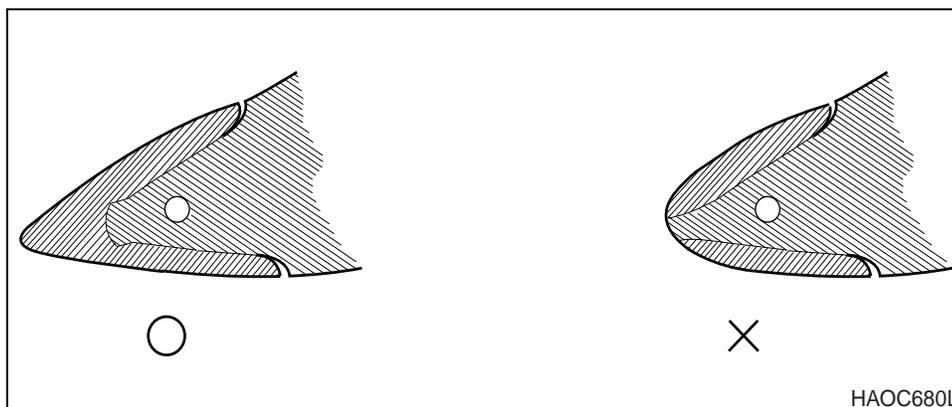

Figure 92
1. On a routine basis, inspect bucket teeth to make sure that tooth wear or breakage has not developed. Do not allow replaceable bucket teeth to wear down to a point that bucket adapter is exposed. See Figure 92.